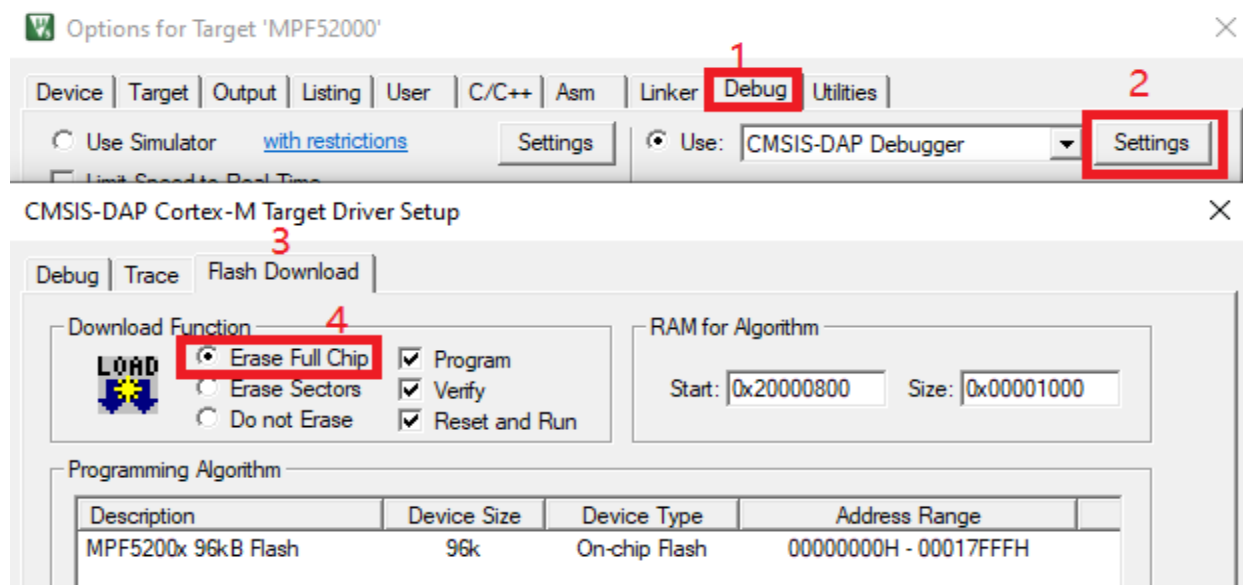

Figure 9: Erasing Data in the Customer-Defined MTP Range
- To erase data in the customer-defined MTP range, set the download function. Erase the full chip using a Jlink tool (or another SWD tool). After re-downloading the PD firmware, the old MTP values are cleared (see Figure 9).